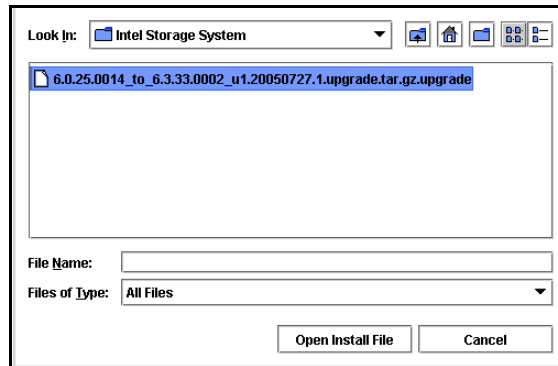

Figure 36. Browsing for Upgrade or Patch File
5. Click Browse to navigate to the folder on the Console computer where you copied the upgrade or patch file, as shown in Figure 36.